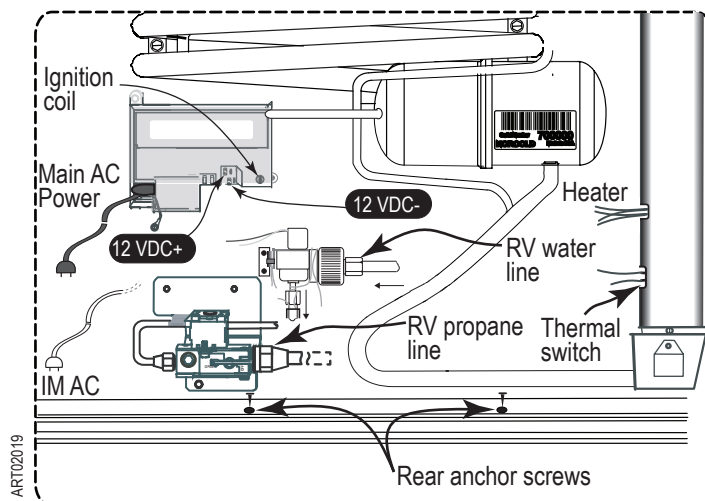

Figure 1. Power Board, Thermal Switch Position, Valves, and Anchor Screws (seen through the service access)
If the refrigerator has no thermal switch (Refer to Figure 1.) and its cooling unit serial number falls between 1008701 and 1273700 add the switch as described in the following three sections: Shutdown and Removal from Enclosure, Canister Replacement and Thermal Switch Addition, Replacement into Enclosure and Restoring Power.
2. Disconnect the refrigerator's black 120 AC power cord from the RV receptacle. Refer to Figure 1.
2. From the service access/air intake vent, use two wrenches to disconnect the RV's propane line from the refrigerator's propane valve. Refer to Figure 1.
2. From the service access/air intake vent, use a wrench to disconnect the incoming water line at the refrigerator's water valve. Refer to Figure 1.
1. From the service access/air intake vent, remove all rear anchor screws holding the refrigerator's frame to the floor of the RV. Refer to Figure 1.
1. Reconnect the propane line to the propane valve. Refer to Figure 1.
1. Snugly reconnect the RV water line to the water valve. Refer to Figure 1.
2. Insert the refrigerator's black power cord into an RV AC receptacle. Refer to Figure 1.